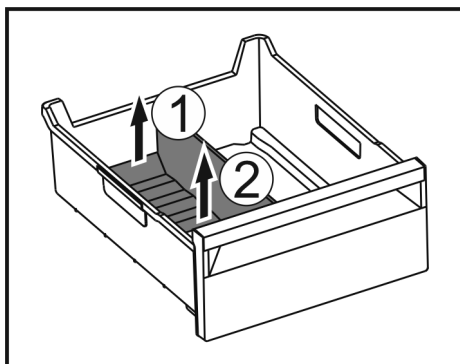

Fig. 146
- Lift the rear part of the ice compartment divider. Fig. 146 (1)
- Remove the ice compartment divider upwards. Fig. 146 (2)